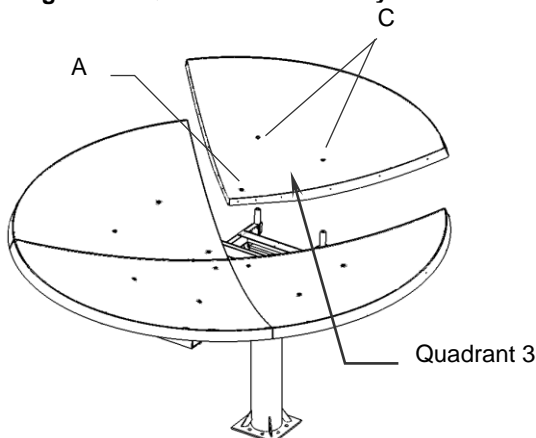

Figure 19: Quadrant 3 Assembly
23. Position quadrant 3 (quadrant 1 for inverted) to the bottom of the frame as shown in Figure 19, Quadrant 3 Assembly.